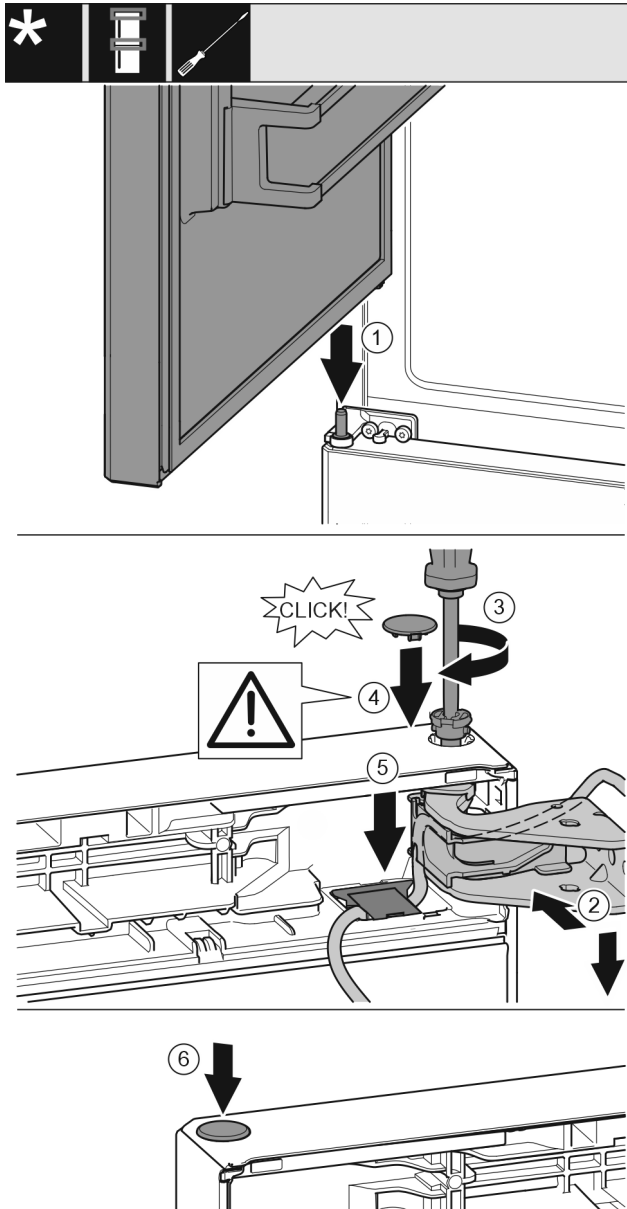

Fig. 42
- ▶ Place the upper door on the centre bearing pins Fig. 42 (1)
- ▶ Align the top of the door with opening in the bearing bracket. Fig. 42 (2)
- ▶ Insert the bolt and tighten with a T15 screwdriver. Fig. 42 (3)
- ▶ Fit the protective cover to protect the door: Insert the protective cover and check that it is flush to the door. If not, insert the bolt fully. Fig. 42 (4)
- ▶ Place on the cover and press it down until it latches into place. Fig. 42 (5)
- ▶ Insert the plugs. Fig. 42 (6)